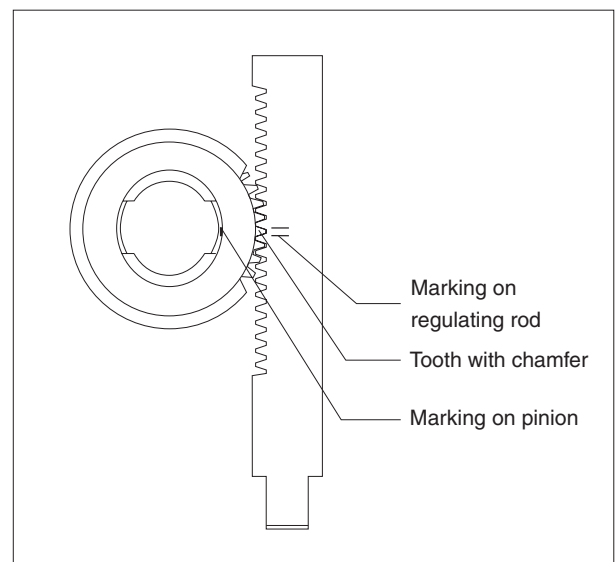

Fig 4 Mounting of Regulating Rod Mechanism
F. When assembling the pinion (J), ascertain that the tooth (recognizable by the chamfer) will enter the space of the regulating rod (H) marked by two sings, see fig 4.
G. The marking on the guide cam of the plunger (M), must be in line with the marking in the slots of the pinion (J). (Not shown on fig 4).
18. After assembling, the easy motion of the regulating rod (H), must be checked and the plunger (M) must be moved from the no-load stop to full-load stop.